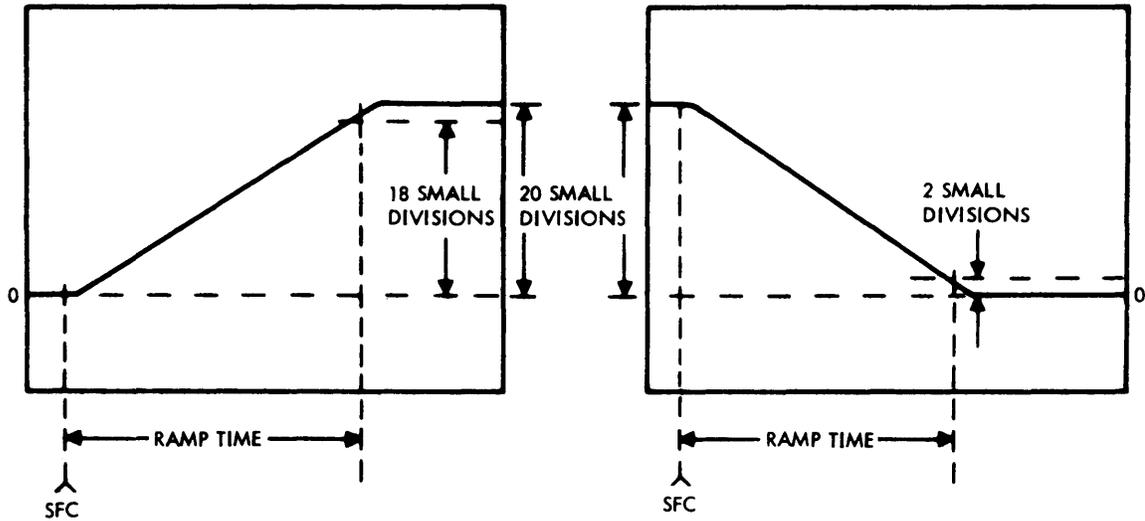

Figure 6-1. Ramp Levels and Timing
- (1) Connect a signal probe of a Tektronix Model 453 or equivalent oscilloscope to TP 6 on Control A, TP18 on Control B2.
- ✓ (2) Connect the oscilloscope reference probe to TP7 (0V) on Tape Control PCBA; TP22 on Control B2.
- (3) Apply a 5Hz symmetrical square wave with a 3V amplitude (+3.0V to 0V) to the interface line ISFC (J101 pin C)
- (4) Synchronize the oscilloscope on the negative going edge of the square wave input.
- (5) Adjust the oscilloscope Variable Vertical (volts/div) control to display 0 to 100 percent of the ramp waveform over four large divisions of the oscilloscope graticule.
- (6) Observe that the ramp adjustment time intersects 90 percent of the ramp amplitude (18 small divisions of oscilloscope graticule). Figure 6-1 illustrates ramp levels and timing.
Specified times result in oscilloscope display illustrated in Figure 6-1. The ramp adjustment time intersects 90 percent of ramp amplitude when accelerating and 10 percent of ramp amplitude when decelerating.